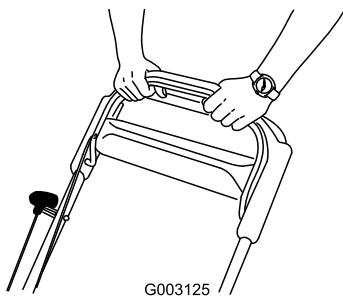

Figure 31
3. Hold the blade control bar against the handle (Figure 31).